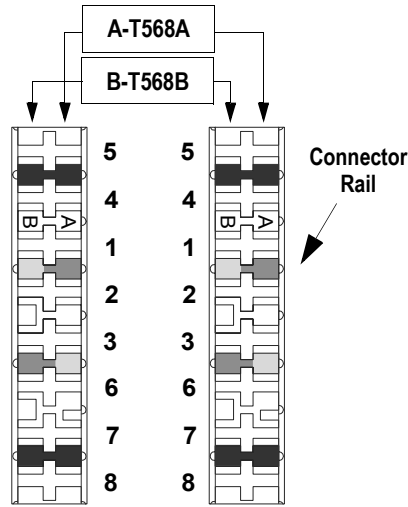

Figure 1. RJ-45 110 / Krone Connections
3. When installing wires in a T568A configuration of an RJ45 110/Krone Panel (Figure 1), follow the connector color codes on the right side rail of each connector.
4. When installing wires in a T568B configuration of an RJ45 110/Krone Panel (Figure 1), follow the connector color codes on the left side rail of each connector.